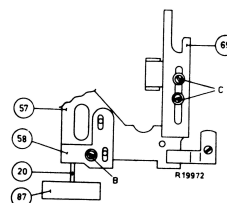

Fig. 13
- . Depress start key 87.
- . Undo screws B and C (fig. 13).